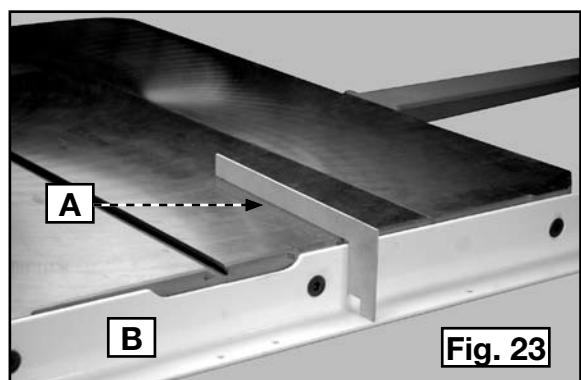

Fig. 23
2. Use the template (A) Fig. 23 that is supplied with the fence system to check and adjust the level of the front rail (B) to both ends of the saw table. Tighten the guide rail hardware securely.